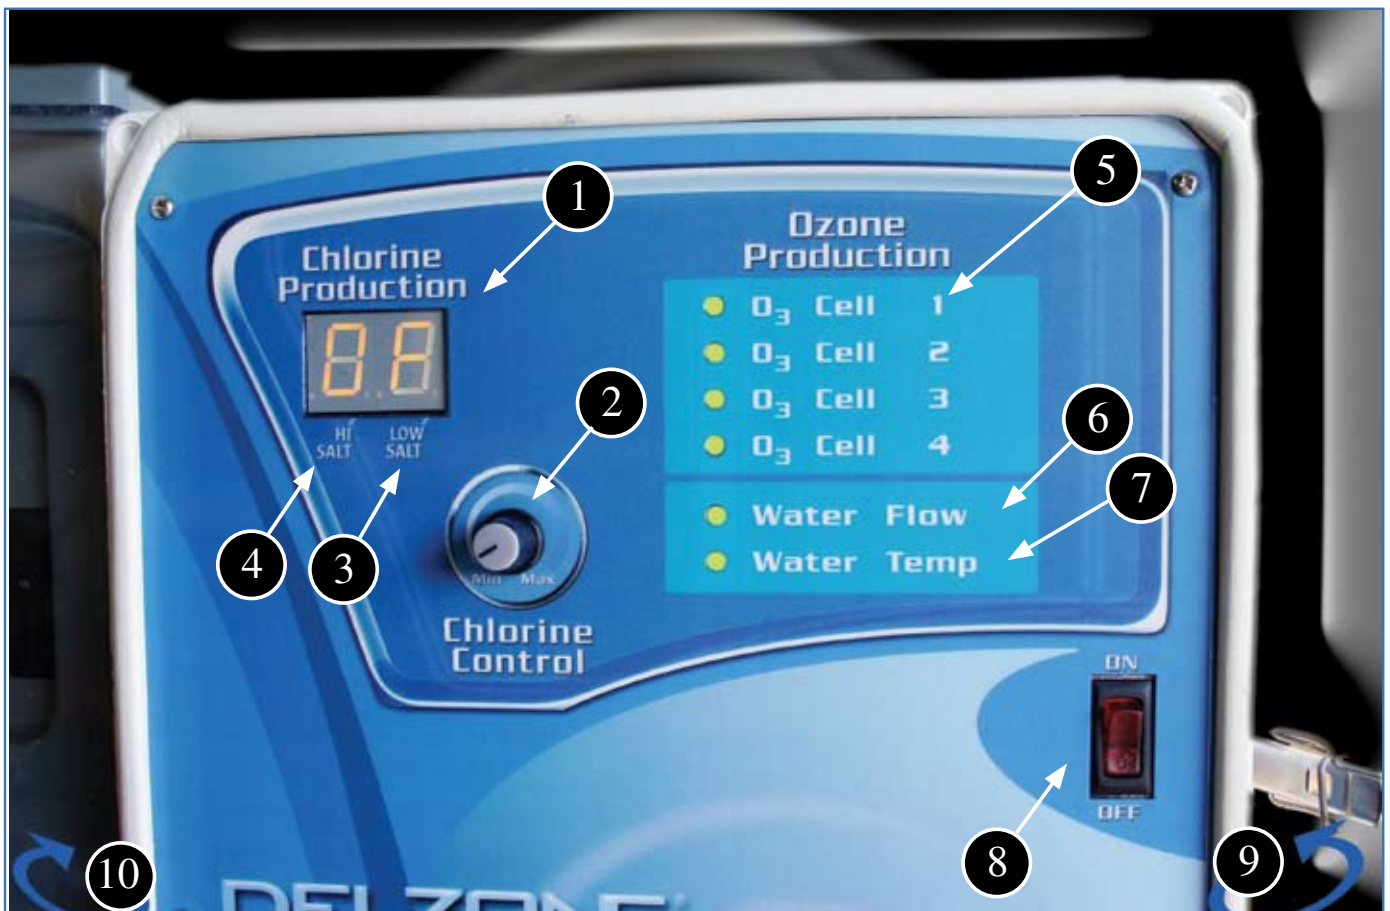

Figure 15
Step 3 - Become familiar with the controls, indicators, and features of the TrioPure™. See **Figure 15** below (TrioPure-50 shown)